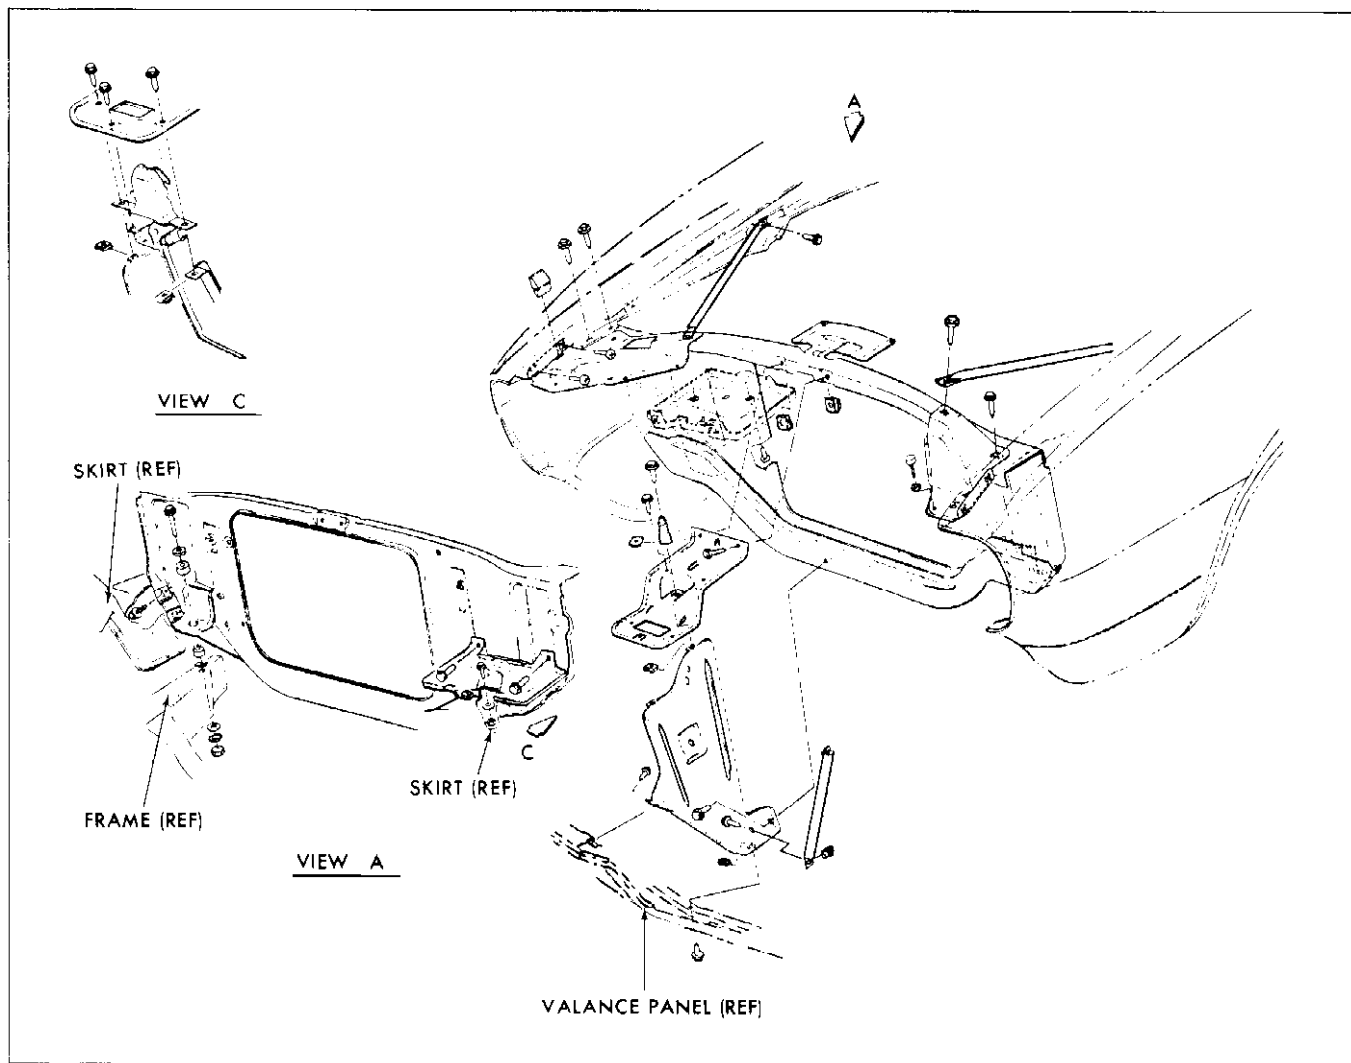

Fig. 11-3 Radiator Support Assembly and Hood Latch
A positive locking hood latch, which incorporates a safety catch with the pilot assembly (Fig. 11-3), is used on all models. The hood latch being fastened
3. The front height of entire sheet metal assembly is controlled through the use of spacer between the frame bar and secondary mounting insulator (Fig. 11-3). Special attention is required to ensure that the sheet metal is resting on these mounts and is not being supported by the fender to shroud attachments. For this reason, the fender to shroud attachments should be loosened and readjusted whenever the front mounting is disturbed.
1. Remove battery (Fig. 11-3).